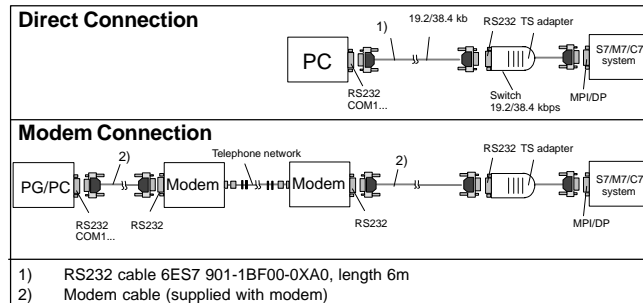
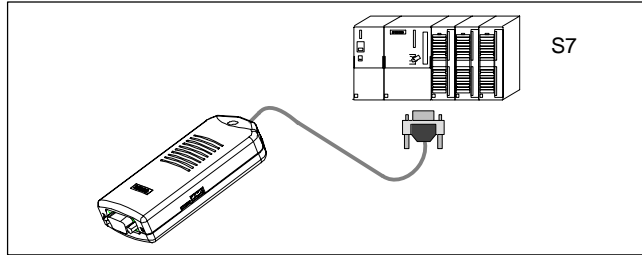

Figure 1-2 TS Adapter in the System
Figure 1-5 Connecting to an S7 System (Two Network Nodes)
- See Figure 1-2 “TS Adapter in the System” for details of modem connection. A modem is connected to the RS232 interface of the TS adapter using the enclosed RS232 cable. In the modem description, this cable is used for connecting the modem to a PC. If this modem cable does not have a 9-pin SUB-D socket connector on the TS adapter side, the relevant adapter must be used (Figure 1-5).